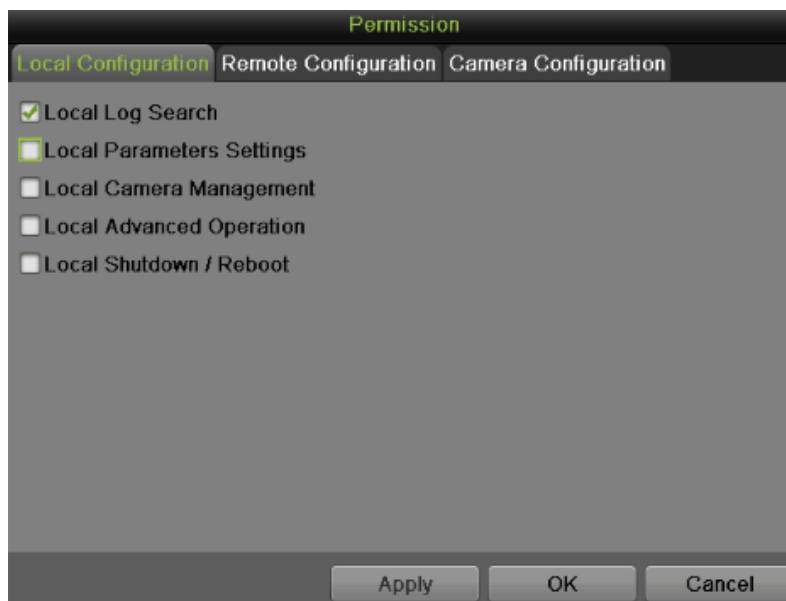

Figure 110 Permission Settings Menu
- Click  to enter the Permission interface, as shown in **Figure 110**.
1. Enter the User menu, shown in **Figure 110** by going to Menu > System Configuration > User.